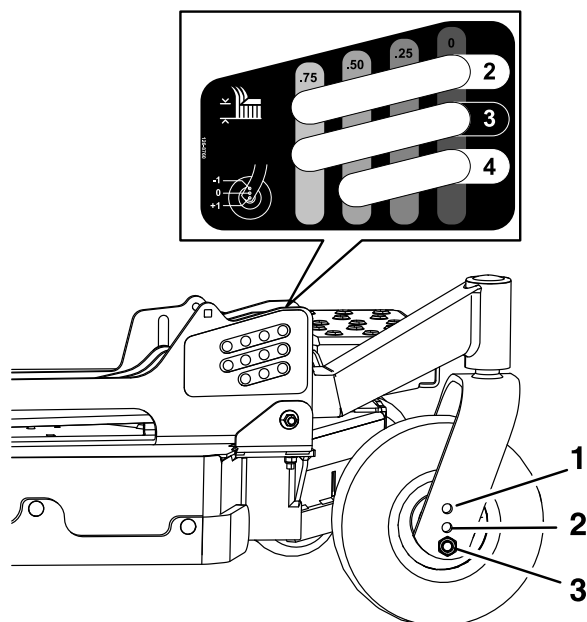

Figure 25
- B. Adjust the front and rear gauge wheels to the appropriate hole location (see the chart below and Figure 25) and reinstall the mounting hardware.